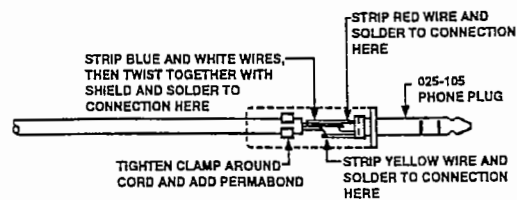

Figure 22
4. To wire data cable to the phone plug, see Fig. 22 below.